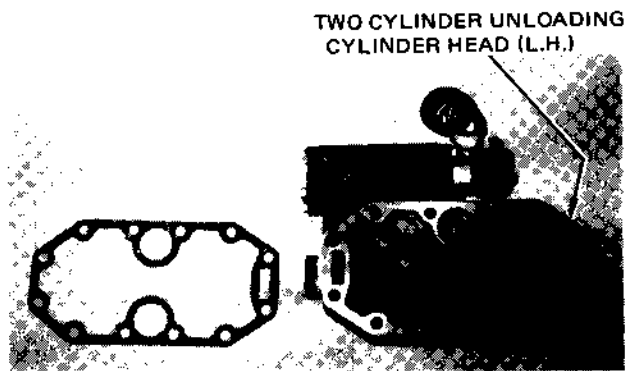

Figure 3
4. Figures 3, 4 and 5 illustrate the three types of cylinder heads and gaskets used on Model M compressors.